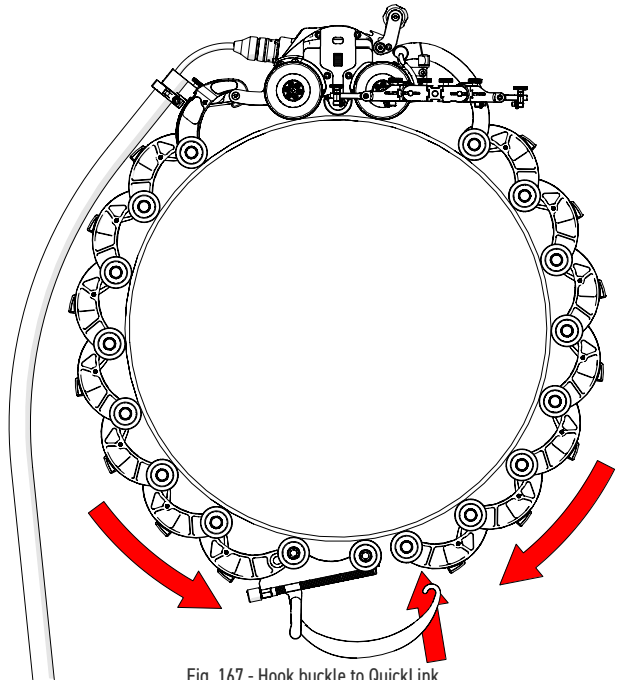

Fig. 167 - Hook buckle to QuickLink
9. Bring the QuickLink buckle arm towards the axle of the opposite QuickLink. Hook the QuickLink buckle's arm to the axle of the QuickLink (Fig. 167).